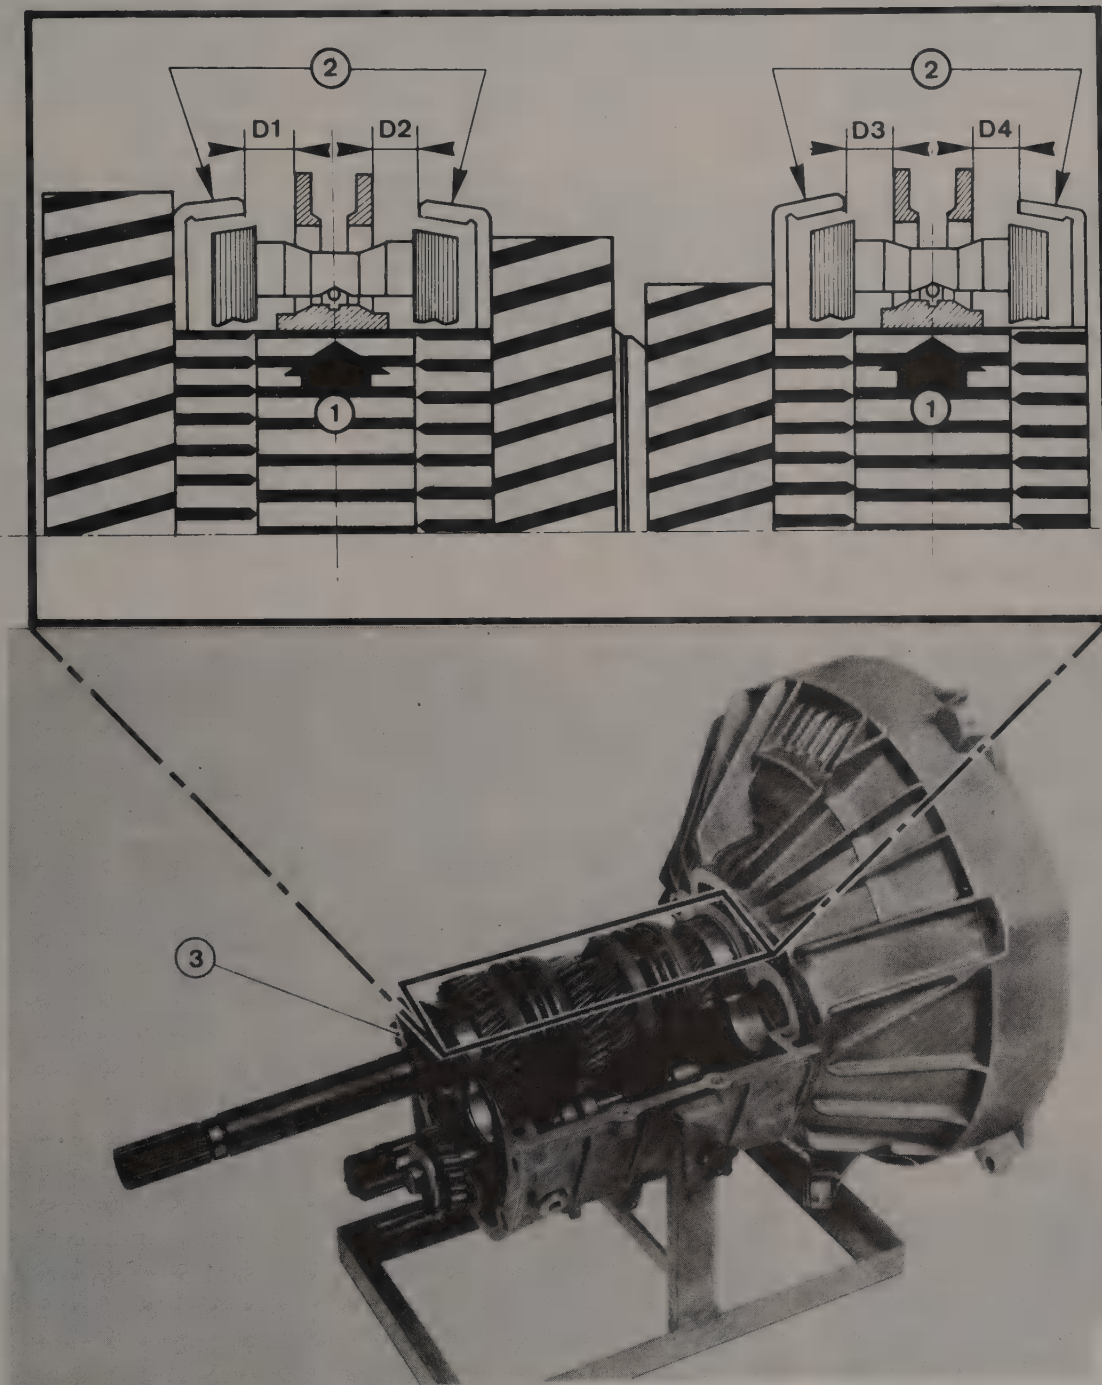

Fig. 6.6 Centralisation of the synchro units (Sec 15)
- 2 Fit the clutch housing and rear bearing retainer to the casing, as shown in Fig. 6.6, and check that the selector forks are in neutral.
dimensions D1/D2 and D3/D4 in Fig. 6.6 using vernier calipers.